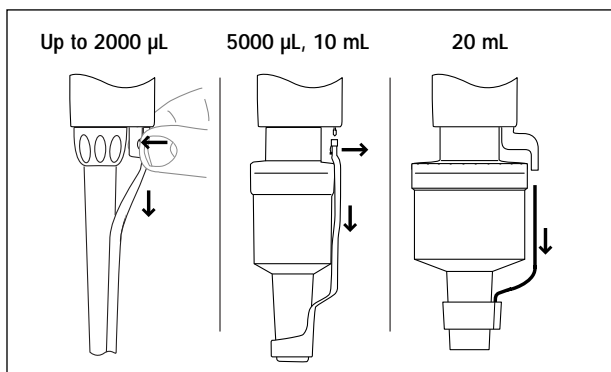

FIGURE 8 REMOVING THE TIP EJECTOR ARM
1. Refer to Figure 8 to remove the tip ejector arm.